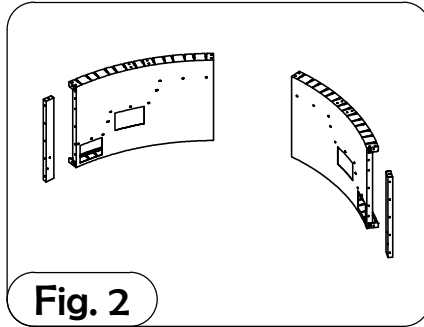

Fig. 2
2. Bolt stair fillers to radius stair side panels (Fig. 2).